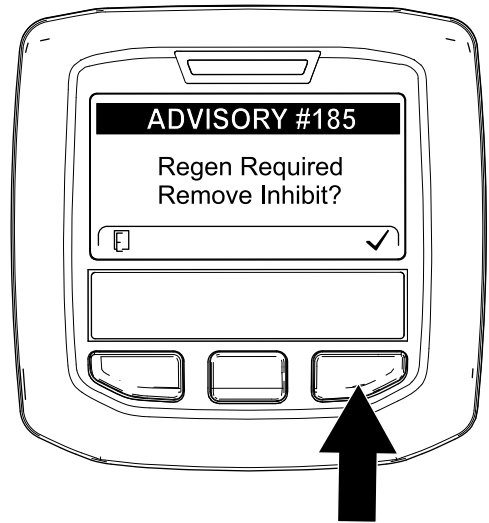

Figure 41
**Note:** If INHIBIT REGEN is set to ON, the InfoCenter displays ADVISORY #185 (Figure 41). Press button 3 to set inhibit regeneration setting to OFF and continue with the reset regeneration.